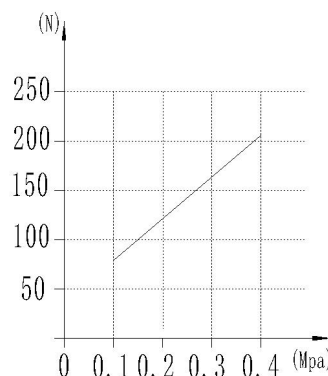

Figure 7-1 Floating force change diagram
1. Figure 7-1 illustrates the vertical direction, with the chuck pointing toward the ground as floating force changes with applied air pressure. Measured value may range from 0Mpa to 0.4Mpa and convert applied pressure into floating force. The actual force characteristics depend on the installation direction and conditions of the device. In applications where the deburring tool is mounted horizontally, applying air pressure requires overcoming the weight of the motor. The amount of floating force also depends on the material of the workpiece, the type of tool, and the amount of material being removed.